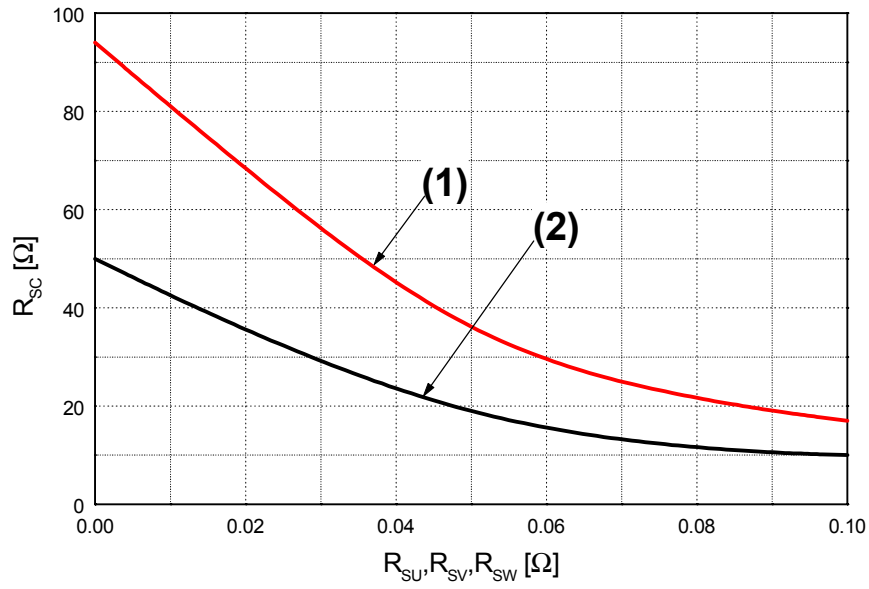

Fig. 6. R_{sc} Variation by change of Shunt Resistors (R_{su}, R_{sv}, R_{sw}) for Short-Circuit Protection
- Short-circuit current protection is functioning only at the low-sides. It would be recommended that the value of the external sensing resistor (R_{SC}) should be selected around 50 Ω in order to make the SC trip-level of about 22.5A at the shunt resistors (R_{SU}, R_{SV}, R_{SW}) of 0Ω. For the detailed information about the relationship between the external sensing resistor (R_{SC}) and the shunt resistors (R_{SU}, R_{SV}, R_{SW}), please see Fig. 6.